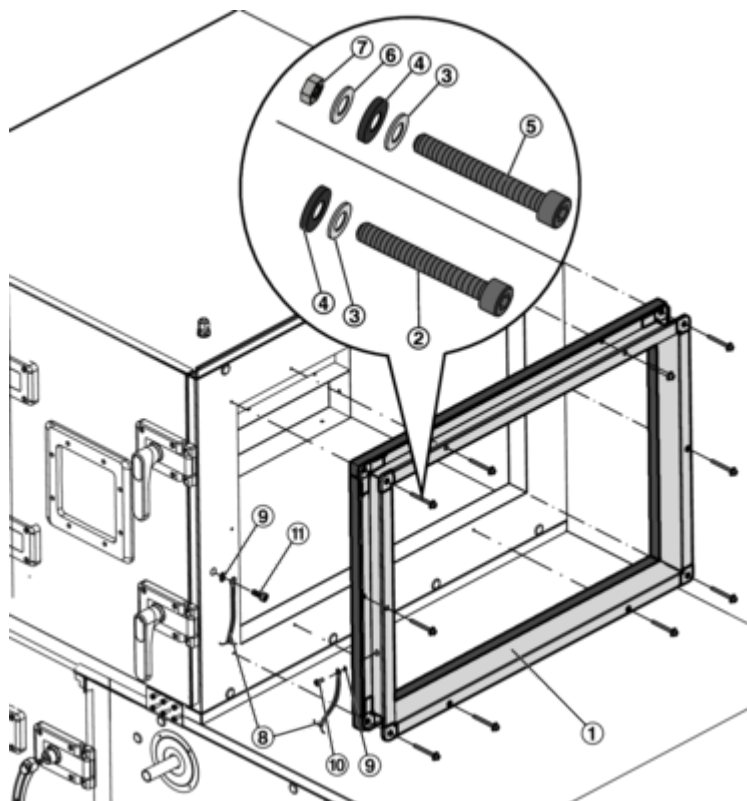

Fig. 19: Installing the noise insulating connector
②	Thread forming socket cap head screw M6 × 40	A00000055910	A00000055911	–	–
③	Washer Ød 6.4	M332AA3	M333AA3	M332AA3	M333AA3
④	Rubber seal 17 × 6.5 × 3	M338BD0
⑤	Socket cap head screw M6 × 40	–	–	A00000018868	A00000056190
⑥	Washer Ød 6.4	–	–	M332AF9	M333AC3
⑦	Nut M6	–	–	M332AD6	M323AA3
⑧	Ground cable	A00000026651
⑨	Lock washer, serrated	M332KB4	A00000045194	M332KB4	A00000045194
⑩	Pan head screw M6 × 12	M852AC6
⑪	Socket cap head screw M6 × 30	M852AC4
- 1 ▶ Place the noise insulating connector (Fig. 19 /1) on the air handling unit with the perimeter seal facing down; fix it with thread forming screws (Fig. 19 /2), rubber seals (Fig. 19 /4) and washers (Fig. 19 /3).
If the noise insulating connector is to be attached to a multileaf damper, fix it with the supplied socket cap head screws (Fig. 19 /5), rubber seals (Fig. 19 /4), washers (Fig. 19 /3 and 6) and nuts (Fig. 19 /7).
- 2 ▶ Fix one eye of the ground cable (Fig. 19 /8) with a pan head screw M6 × 12 (Fig. 19 /10) and a serrated lock washer (Fig. 19 /9) to the noise insulating connector.
- 3 ▶ Fix the other eye of the ground cable with a socket cap head screw M6 × 30 (Fig. 19 /11) and a serrated lock washer through the panel sheet to the tubular frame of the air handling unit.